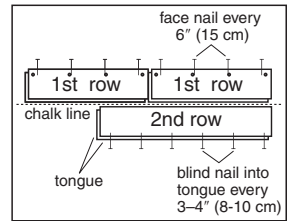

Figure 7
- Use the longest, straightest boards available for the first two rows. For random and alternate width products, use the widest plank for the first row. Align tongue of first row on chalk line. The groove should be facing the starting wall. Pre-drill 1/2” (13 mm) from back (groove) edge, 1”-2” (2.5-5 cm) from each end, and at 6” (15 cm) intervals when possible (Figure 7). Fasten using 4 or 6d finishing nails or 1” (2.5 cm) pneumatic finish nails/brads. Countersink the nails.